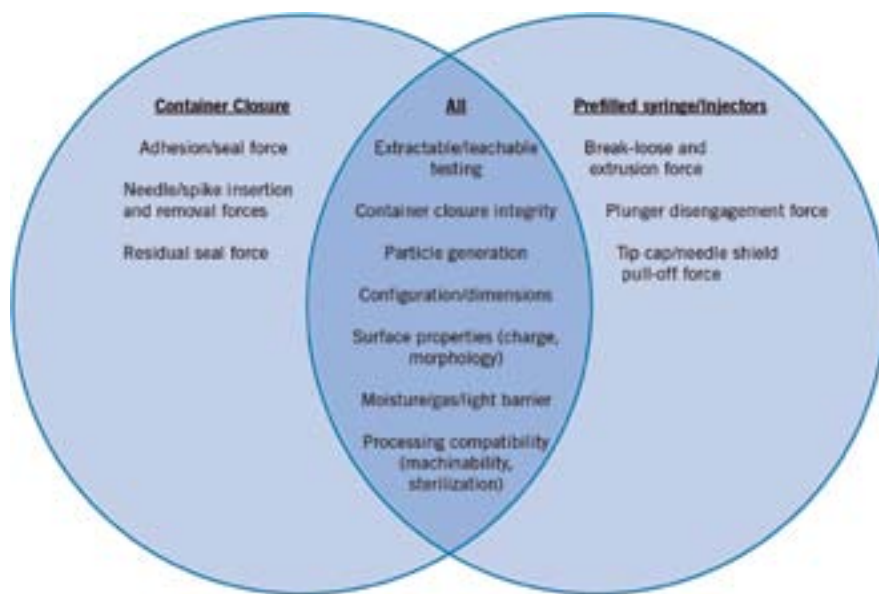

Figure 1 Potential Failure modes for Containers and Delivery Devices
a suitable manner, filled with ultrapure water and autoclaved for one hour at 121 °C according to ISO 4802-2 (1). Due to the harsh conditions, this method is suitable to quickly reveal the chemical stability of the inner surface of the glass. The analysis of the extracted elements was performed by means of inductively coupled plasma mass spectrometry and inductively coupled plasma-optical emission spectrometry, respectively. The exemplary results are given as their oxides and displayed in **Figure 1**.